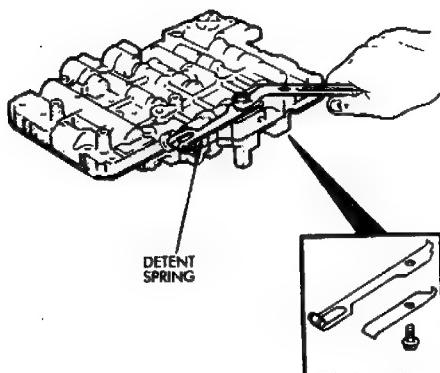

Fig. 5 Installing Detent Spring
(7) Install two-piece detent spring (Fig. 5). Tighten spring attaching bolt to 10 N·m (7 ft-lbs) torque.